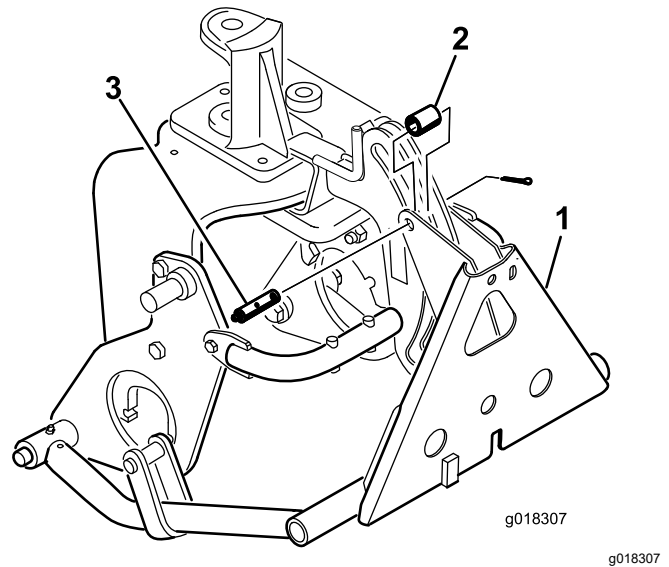

Figure 15
- Secure the frame adapter to the hitch frame with a tube, a clevis pin, and a cotter pin (Figure 15).